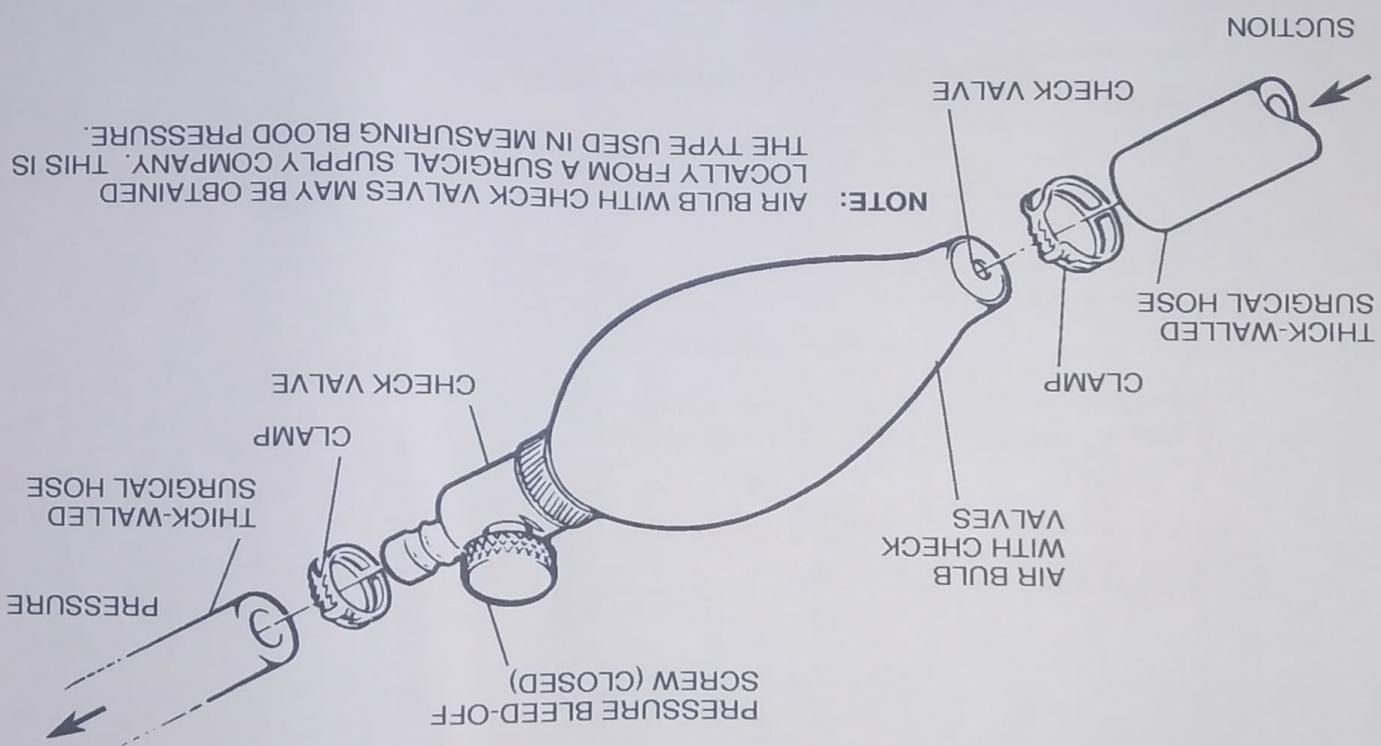

Figure 601 : Sheet 1 : Static System Test Equipment Fabrication
- (14) Slowly increase the pressure and make sure that the airspeed warning horn gives an audible sound at 178 KIAS, +3 or -3 KIAS.
- (15) Slowly decrease the pressure and make sure that the airspeed warning horn sound stops at 178 KIAS, +3 or -3 KIAS.
- (16) With the airspeed set at 175 knots do the leak check on the system.
- (17) Slowly unroll the tubing and gradually decrease the pressure.
- (18) Remove the tubing from the pitot tube.
- (19) Close the static pressure alternate source valve.
- (20) Set the altimeter to 29.92.
- (21) Apply a source of suction to the remaining static pressure source opening. Refer to Figure 601 for one method.
- (22) Slowly apply suction until the altimeter shows a 1000-foot increase in altitude.
- c Apply a source of positive pressure to the static source opening. Refer to Figure 601 for one method to get a positive pressure.
**G.** Do a Functional Check of the Pitot/Static Systems (Alternate Method). Refer to Figure 601.